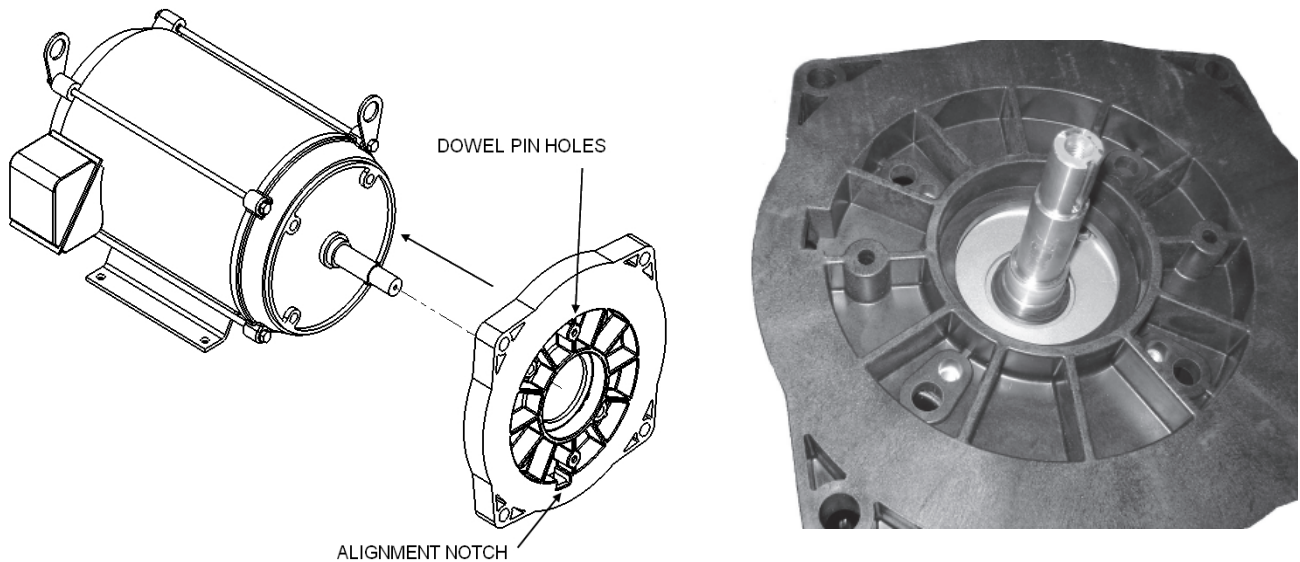

Figure 1
1. Slide the motor adapter into place over the motor shaft with the ribs facing away from the motor (Figure 1).
4. Ensure that dowels are vertically oriented and the alignment notch is on the bottom (Figure 1).
5. Secure the motor adapter to the motor using the four screws (10) and washers (8)(9) (See Replacement Parts page of the EQ Series® pump Installation and User's Guide).